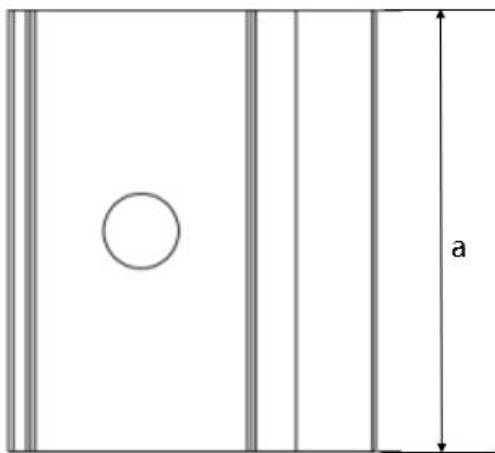
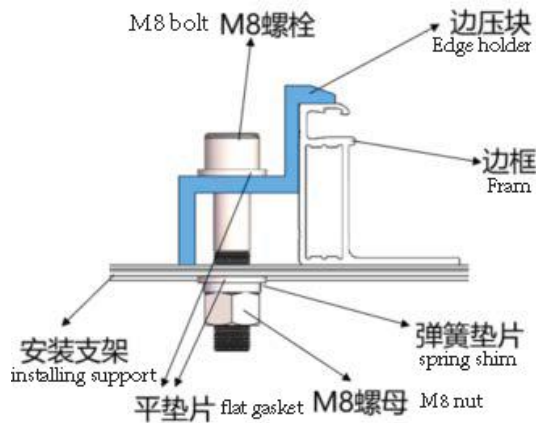
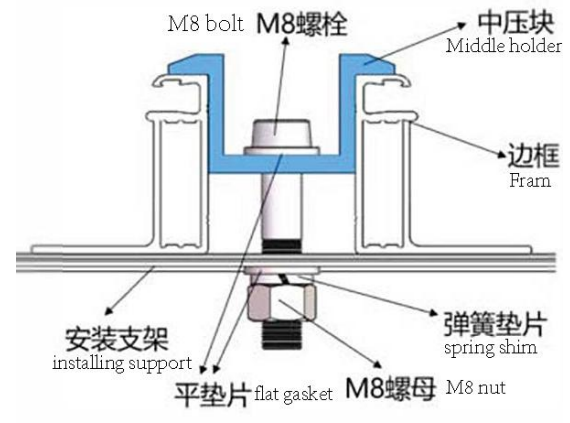

Figure7 Top view of side press block
Figure9 Installation diagram of edge block
Figure10 Installation diagram of medium pressure block
②Be sure to avoid the shadow caused by the fixture on the Module shielding effect. The leak hole should not be blocked by the fixture. The fixture must overlap with the assembly frame by at least 8mm but not more than 11mm (the fixture section can be changed if the assembly is installed reliably).
③The upper surface of the bracket in contact with the assembly frame shall have a groove matching the M8 bolt.
④ If there is no groove on the support, it is necessary to drill a hole with a suitable diameter in the above mentioned position for bolt fixing.
⑤Ensure that the installation sequence of each press block is flat washer, spring washer, nut.
⑥Figure 7 and 8 are the schematic diagram of the block, and Figure 9 and Figure 10 are the schematic diagram of the installation of the block. The size of the block is  $a \geq 60$  mm,  $b \geq 16$  mm,  $c \geq 5$  mm,  $d \geq 8$  mm,  $e \geq 15$  mm,  $\phi = 9$  mm, and the thickness of the block is  $\geq 3$  mm. When bolts and screws are rated 8.8, the recommended tightening torque is 17 to 23N•m.